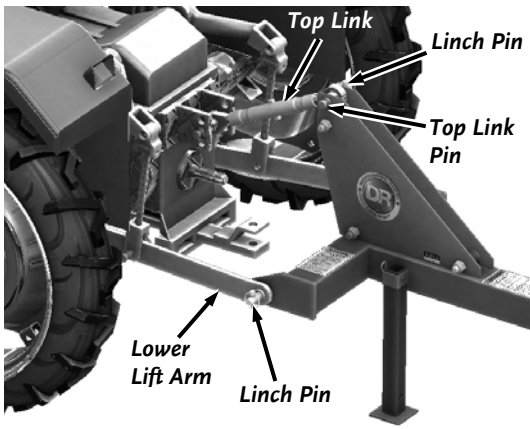

Figure 11
1. Position the rear of the Tractor centered at the Rear Blade Assembly (**Figure 11**).